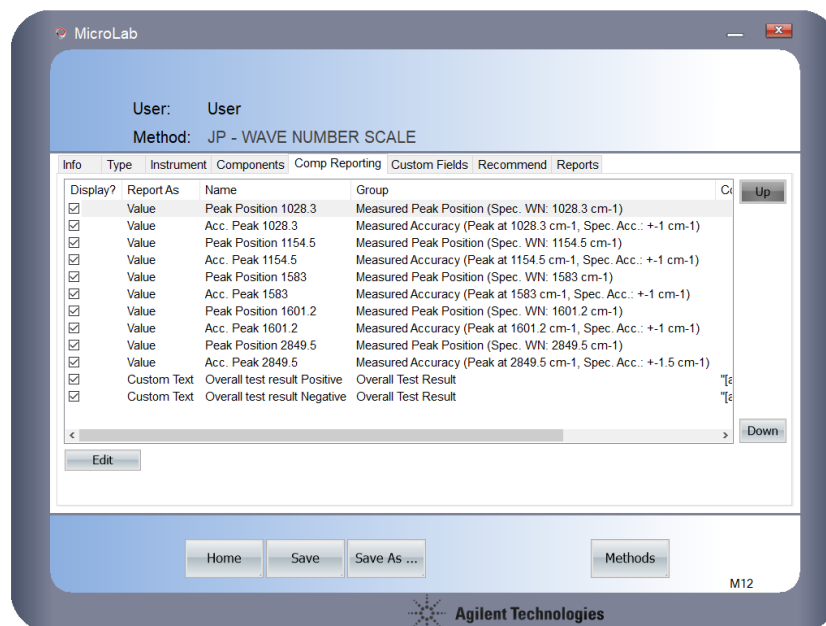

Figure 7. Components in correct order
- 26 Use the **Up** and **Down** buttons to bring the components in the order seen in Figure 7: